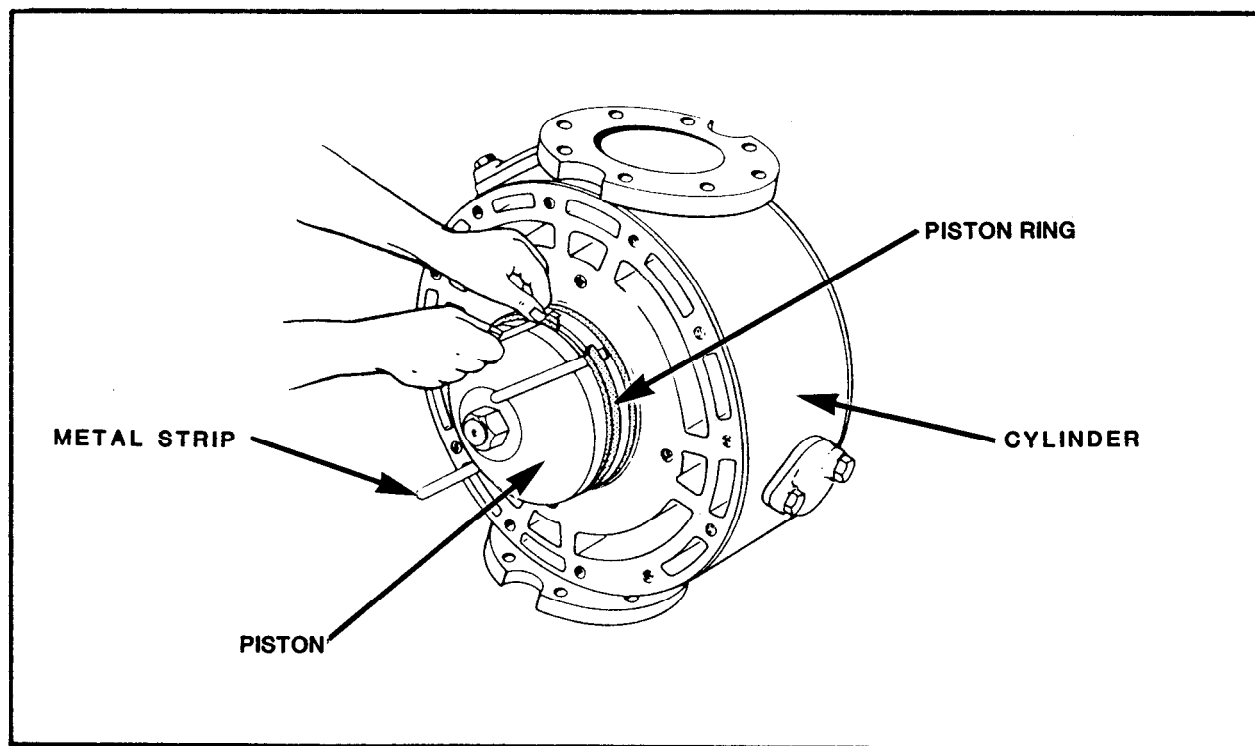

FIGURE 2-2. Installing Piston Rings
**8.5 Piston Rings.** When replacing worn piston rings, the new rings must be tried in the cylinder for fit. If the cylinder wall is badly scored or out of round, rebore the cylinder, or if cylinder liners are fitted, replace them. If necessary to file for end clearance, take care to file the ends parallel. Clean the ring grooves and remove any carbon deposits before installing the new rings. To install new rings, place several metal strips not more than 0.032-inch thick between the piston and rings (figure 2-2). Slide the new rings over these strips until they are centered over the grooves and then pull out the strips. Make sure the ring is free by rotating it in its groove. Stagger the ring gaps of succeeding rings so they are not in line. Use a ring clamping device when reinstalling the piston. If this is not available, wire the rings tightly so they enter the bore easily. Consult the manufacturer's instructions for carbon ring replacement.